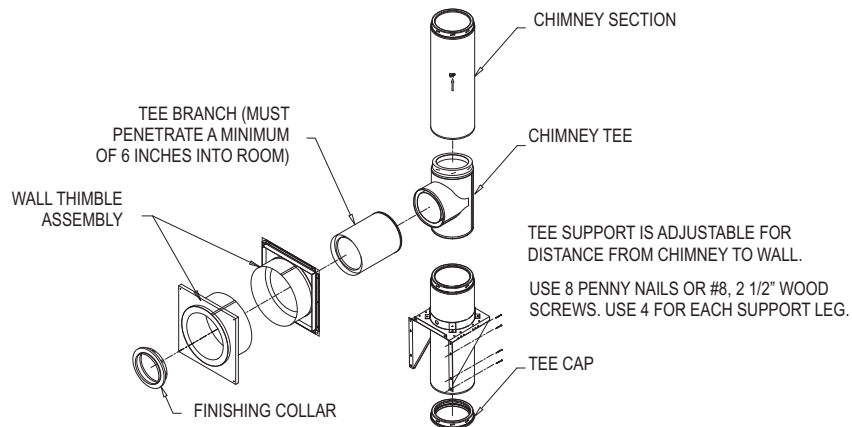
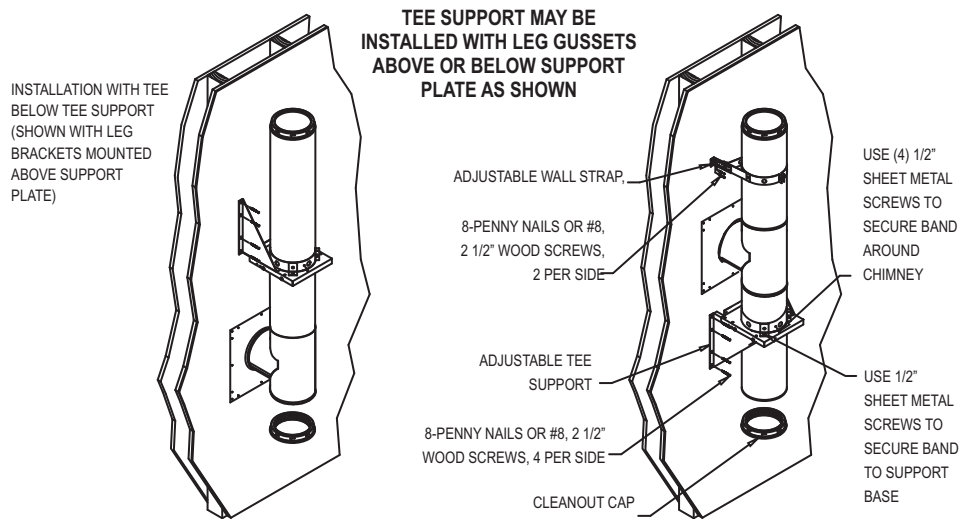

Figure 24
Figure 25
Tee-Supported installations are used when passing through a wall to a chimney. The Tee Support can hold a maximum of 60' of DuraTech Chimney (**Table 2**). The various support components are adjustable in length from the wall to better fit your installation. There are two options when installing a Tee-Supported installation: the Tee Support above the Tee, or the Tee Support below the Tee. The required parts and general configuration are as shown in **Fig.24, 25, 26 and 27**.
Thimble (with shield inside wall) in the framed opening of the outside wall (**Fig.24**). Be sure to seal the flange of the Wall Thimble around the wall by using a non-hardening waterproof sealant. Attach the back portion of the Wall Thimble to the outside wall using at least (4) 8-penny nails or (4) #8, 1-1/2" wood screws. There must be a continuous shield within the wall. If the two halves of the Wall Thimble do not overlap, a field-fabricated extension constructed out of 26-gauge galvanized or stainless steel is needed. Non-combustible insulation that adheres to the specifications outlined on page 4 may be inserted into the Wall Thimble. Do this by wrapping an insulation blanket around the pipe between the thimble sleeves. Ensure the butting edges of insulation are pointing downward. Smaller pieces of insulation may be used to fill in the corners of the thimble pass-through. Do not compress the insulation more than 25% or you may adversely affect the thermal resistance of the insulation.
4. **Install Tee Support:** Install the Tee Support on the outside wall. Position Tee Support so that the chimney Tee will be centered inside the Wall Thimble (**Fig.24, 25, 26 & 27**). The Tee Support may be installed either above the Tee or below the Tee (within one pipe section), as seen in **Fig.25**. See **Table 2** for weight bearing values of components. Important: Verify that Tee Support is level, and secure the Support to the wall using (4) #8, 2-1/2" screws for each side. Slide support base over leg brackets to adjust for desired clearance to wall, and secure by tightening bolts (**Fig.24 & 25**).
Thimble (**Fig.25**). Use the 1/2" sheet metal screws provided to insure a tight connection between support band and chimney section. Connect support band to support base using the 1/2" sheet metal screws provided (**Fig.25**). Twist lock Tee Cap into bottom of Chimney Cleanout section.
at least 6" into the room (**Fig.24 & 27**). Use high-temperature sealant (500°F) to seal between the Wall Thimble and the Chimney on the outer wall.